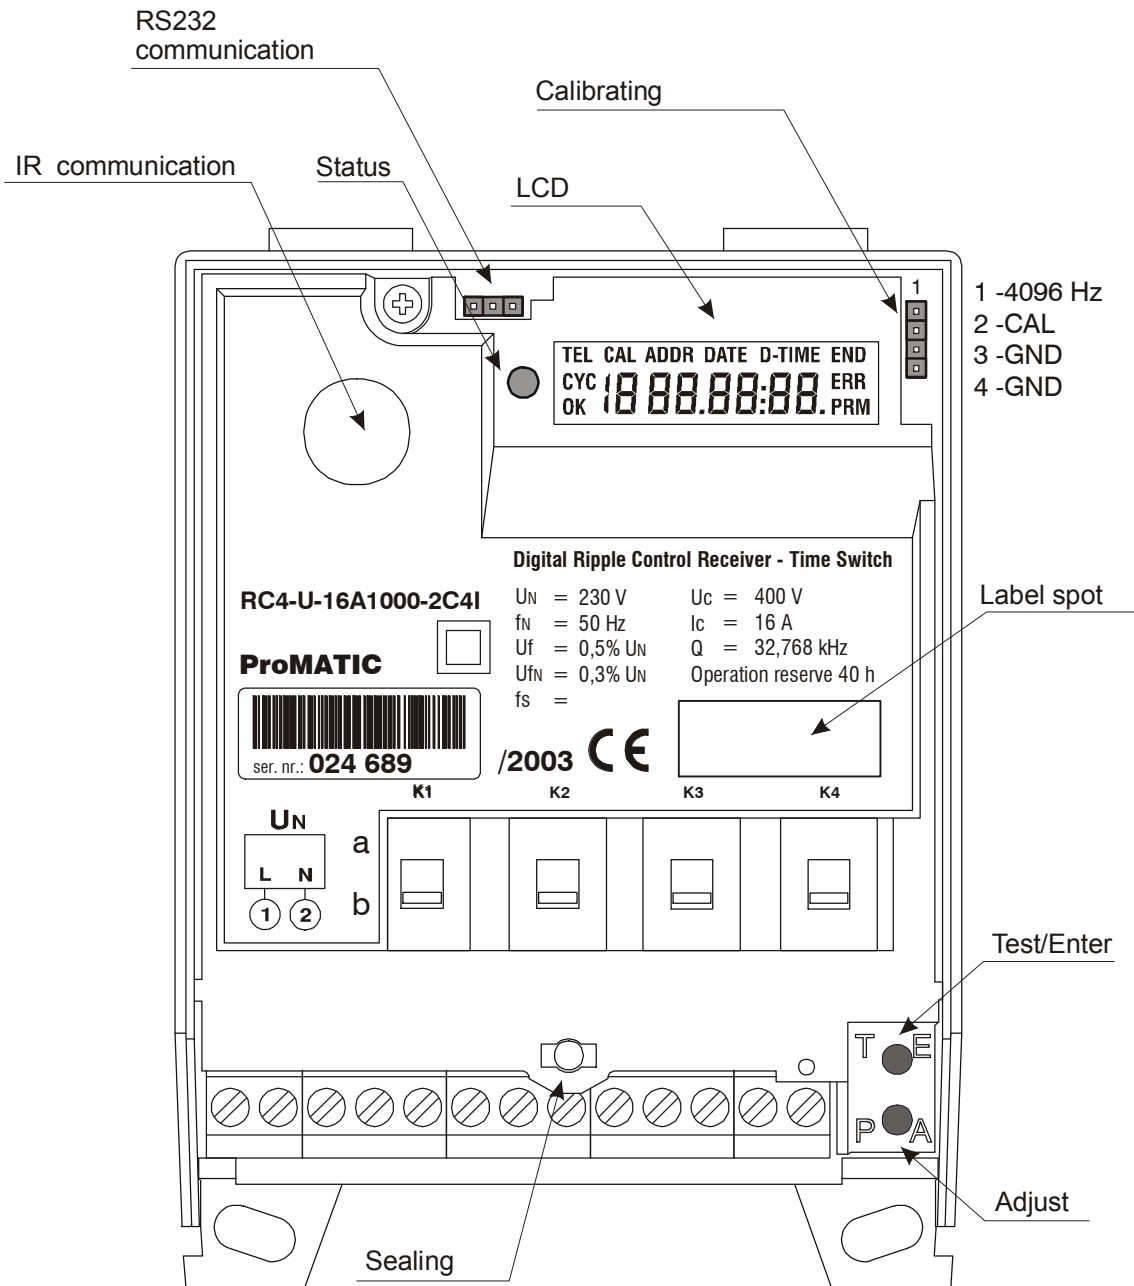

Figure 1. Name plate, terminals and buttons
- Figure 1. Name plate, terminals and buttons 2